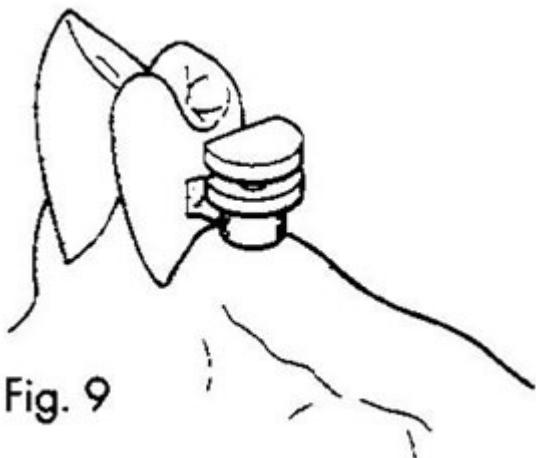

Fig. 9
1. Place a ZAAG Impression Male into each cemented ZAAG female. Position the flat on the impression male so that it faces parallel with the flat proximal plate of the cast abutment (**FIG 9**).